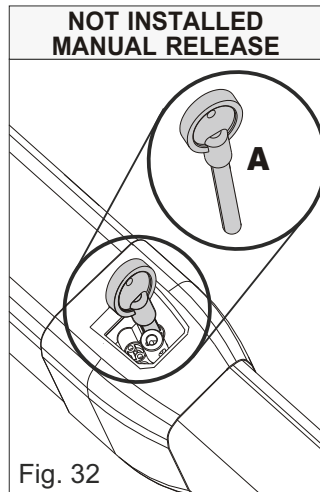

Fig. 32
- **MINI TANK:** disassemble the manual release completely (see next paragraph) then make adjustments using the special key (A) supplied to the installer (Fig. 32)